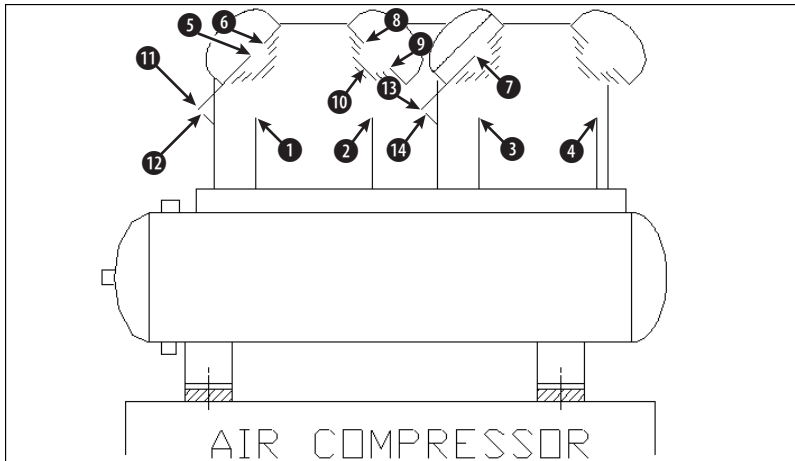

Figure 7-1: The air compressor without its circles
3.  Choose Circle from the Draw toolbar. Right-click and choose 2P from the shortcut menu. At the Specify first end point of circle's diameter: prompt, pick the endpoint at ① in Figure 7-1. At the Specify second end point of circle's diameter: prompt, pick the endpoint at ②.
4. Repeat the CIRCLE command by right-clicking and choosing Repeat Circle. Right-click and choose 2P from the shortcut menu. Pick the endpoints at ③ and ④ in Figure 7-1.
5. Repeat the CIRCLE command by pressing Enter. At the Specify center point for circle or [3P/2P/Ttr (tan tan radius)]: prompt, pick the endpoint at ⑤. At the Specify radius of circle or [Diameter]: prompt, pick the endpoint at ⑥.
6. Repeat the CIRCLE command. At the Specify center point for circle or [3P/2P/Ttr (tan tan radius)]: prompt, pick the endpoint at ⑦. At the Specify radius of circle or [Diameter]: prompt, right-click and choose Diameter; then type `.25` ↵.
7. Repeat the CIRCLE command by right-clicking and choosing Repeat Circle. At the Specify center point for circle or [3P/2P/Ttr (tan tan radius)]: prompt, right-click and choose 3P. At the Specify first point on circle: prompt, pick the endpoint at ⑧ in Figure 7-1. At the Specify second point on circle: prompt, pick the endpoint at ⑨. At the Specify third point on circle: prompt, choose a midpoint object snap and pick the midpoint at ⑩.
12. Repeat Step 11, choosing the endpoint at 13 for the center of the circle and the endpoint at 14 for its radius, as shown in Figure 7-1.